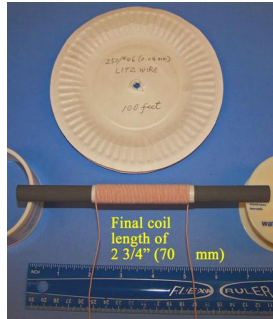

Figure 11
13) Refer to Figure 11. Begin winding the 68 turns of 250/46 Litz wire over the adhesive tape in a tight coil, ensuring that no spaces or kinks are in the Litz wire. When the 68 turns are tightly wound over the adhesive tape, the Litz wire coil will have a length of approximately 2 3/4" (70 cm). After 68 turns of the Litz wire have been tightly wound in a coil, again measure off an extra 12" (31 cm) length of Litz wire extending past the last turn in the coil, to be used as a connecting lead. Cut the Litz wire at this point, 12" (31 cm) after the last turn in the Litz wire coil.